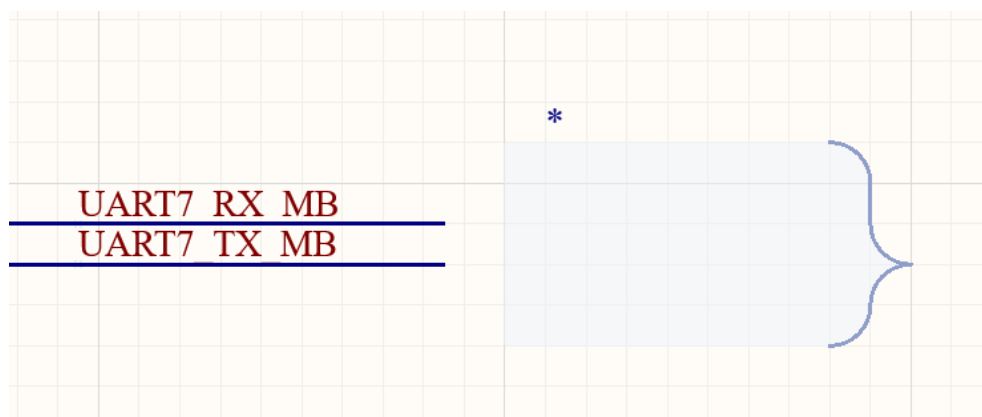

Figure 5. Placing Harness Connector
- d) Right-click to end the command. The Harness Connector should look similar to Figure 5 below. You can change the size anytime after it's placed.